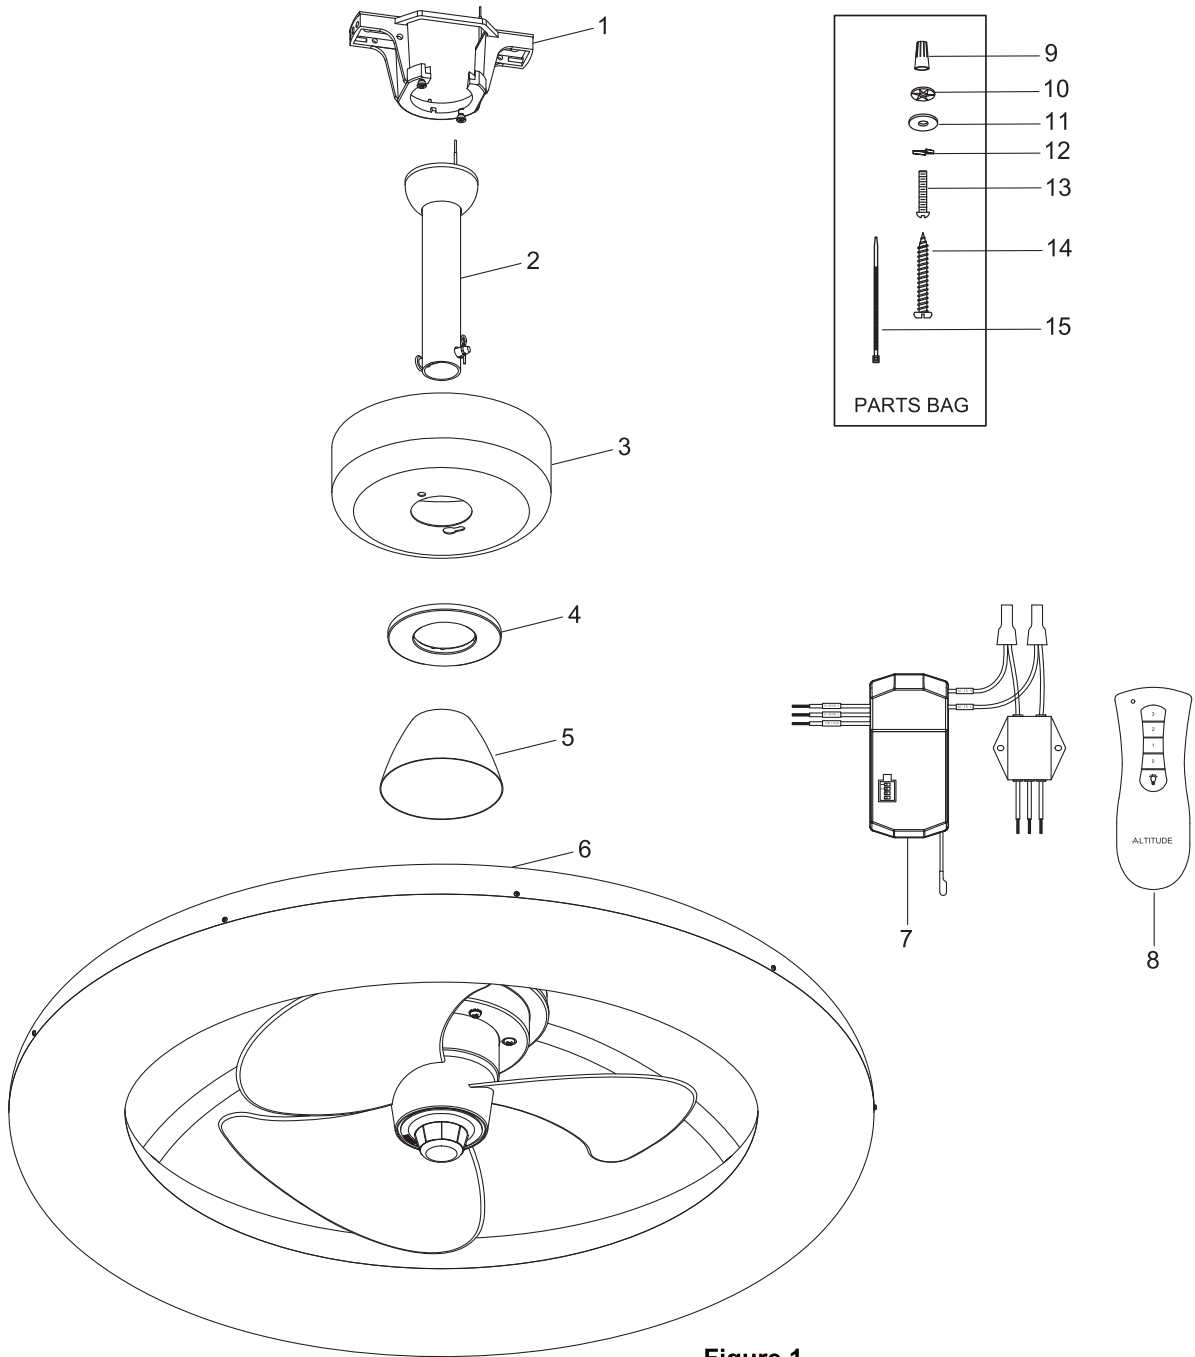

Figure 1
- Fan blade cleaning and disassembly installation diagram, wipe with dry cloth or chicken blanket Do not wash with water (Figure 1)